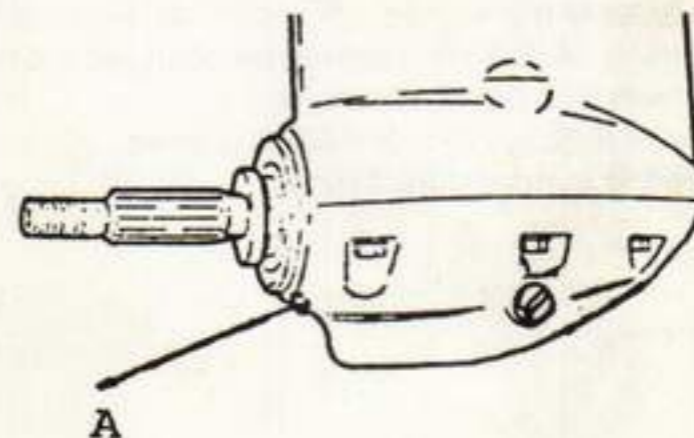

Fig. 22.
2. Drain off the oil at the bottom screw, as shown on fig. 22.
Drain off the oil by the delivery screw »A« at the bottom (fig. 22).